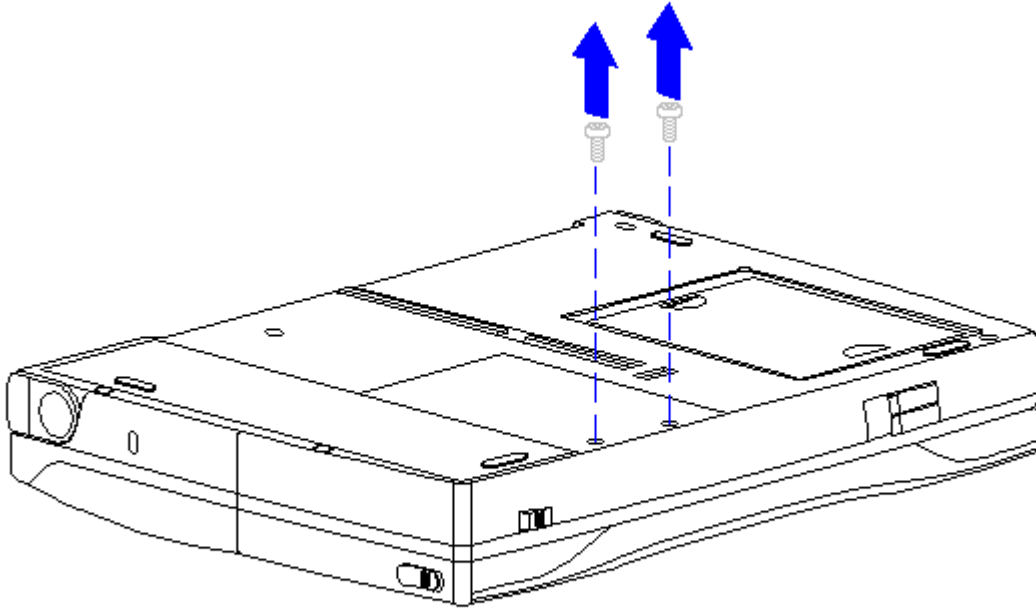

Figure 3-8. Removing Screws from the Hard Drive Compartment Cover (All Models)
3. Using a Torx T-8 or flat-bladed screwdriver, remove the two screws from the hard drive compartment cover (Figure 3-8).